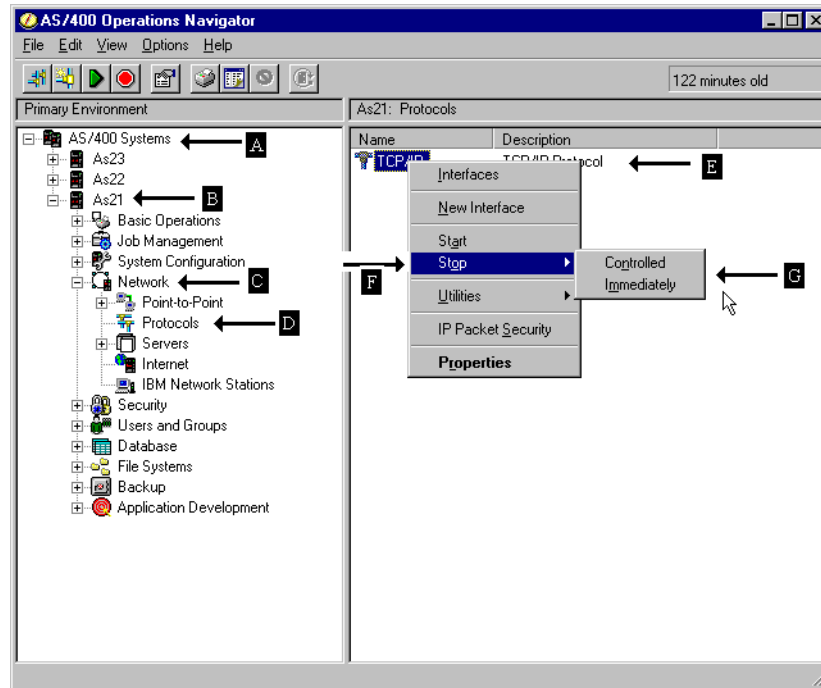

Figure 475. Stop TCP/IP
- a. Double-click the AS/400 system icon (A) in the Operations Navigator tree to give you a list of the AS/400 systems that you are configuring
- b. Double-click the AS/400 system you want to stop TCP/IP processing (B).
- c. Double-click **Network** (C).
- d. Double-click **Protocol** (D).
- e. Right-click **TCP/IP** to open a context menu (E).
2. Select **Stop** (F).
3. Select **Controlled** or **Immediately** (G). Figure 475 shows the Stop TCP/IP dialog.